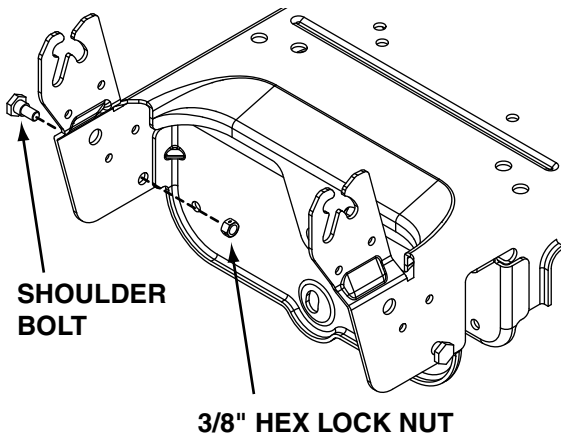

Figure 7
- b. Install a shoulder bolt and a 3/8" hex lock nut on each side of the tractor frame. See figure 7.